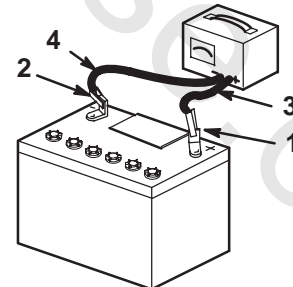

Figure 35
4. When the battery is fully charged, unplug the charger from the electrical outlet, then disconnect the charger leads from the battery posts (Fig. 35).